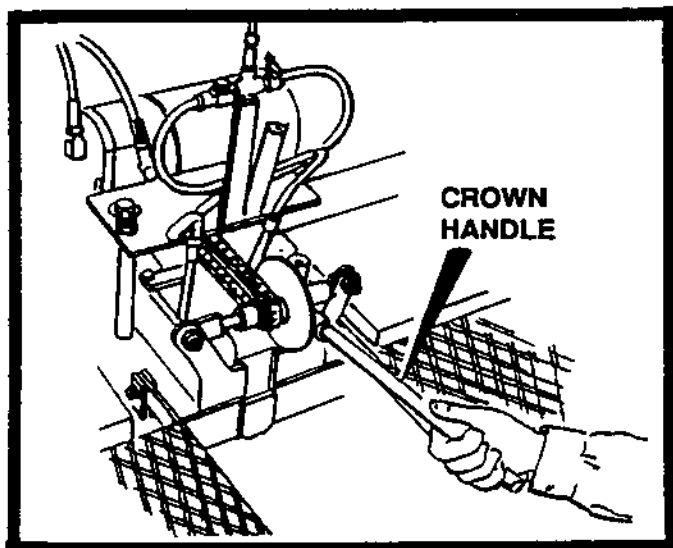

FIGURE 24
- B. Remove crown handle from holder and insert it into opening on control as shown in figure 24.